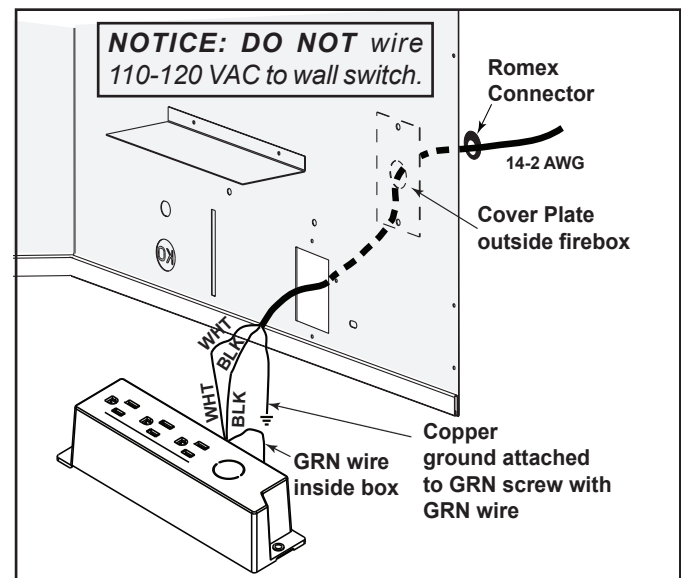

Figure 9.1 Junction Box Detail
- Remove the screw attaching the junction box/receptacle to the outer shell, rotate the junction box inward to disengage it from the outer shell. See Figure 9.1.
- Pull the electrical wires from outside the appliance through the opening into the valve compartment and secure wires with a Romex connector. See Figure 9.1.